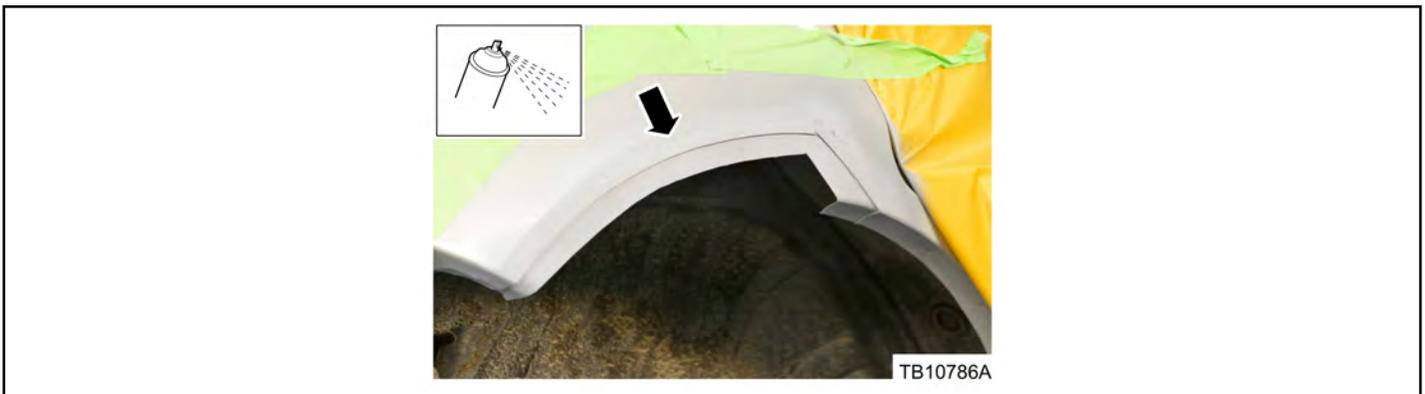

Figure 4 - Article 15-0157
12. Apply 3M™ Weld-Thru Coating II or equivalent and allow to dry. (Figure 4)